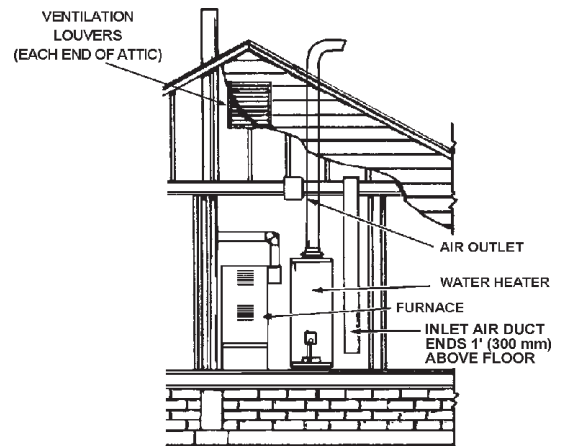

FIGURE 8.
2. When communicating with the outdoors through vertical ducts, each opening shall have a minimum free area of 1 square inch per 4,000 Btu per hour (5.5 cm2/kW) of total input rating of all equipment in the enclosure, see Figure 8.